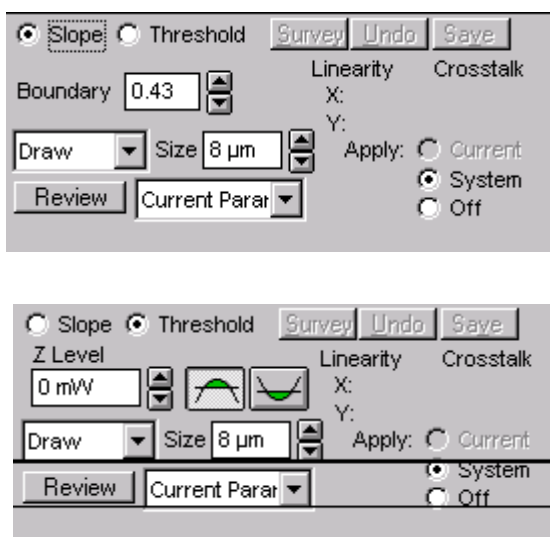

Figure B.6
1. Select **Acquire, Sys File Edit** from the μ TALab **Main** window. The **SysFileEdit** panel appears, as shown in Figure B.6, on the top of the **Main** window, to the right of the **Probe** panel. It replaces the **Temperature** and **AC Mode Setup** panels (see Figure 5.6) when the **SysFileEdit** function is selected.
The top of Figure B.6 shows the **SysFileEdit** panel in **Slope** edge detection mode, which is the default setting. (For information about when to use the **Slope** mode for calibration, contact TA Instruments.)
2. To access **Threshold** edge detection mode, which you will use for this calibration procedure, click on the **Threshold** radio button. The **SysFileEdit** panel changes to **Threshold** mode, as shown in the bottom of Figure B.6.
In order to obtain well-defined structures for the calibration, you may have to use the image editing tools to fill in or erase parts of the highlighted area. The purpose of editing is to obtain clear, uniform periodic structures that can be accurately measured. The editing tools are available from the drop-down menu containing the **Draw** tool (see Figure B.6).